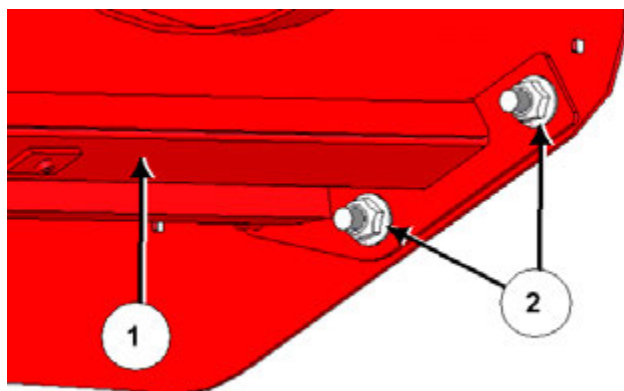

Figure 12: Remove bolts on rear tub wall
- e. Support the tub floor (1) and remove the bolts (2) fastening the tub floor to the rear tub wall; see *Figure 12*.